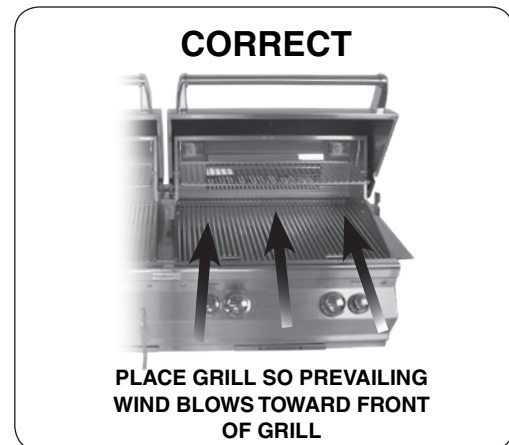
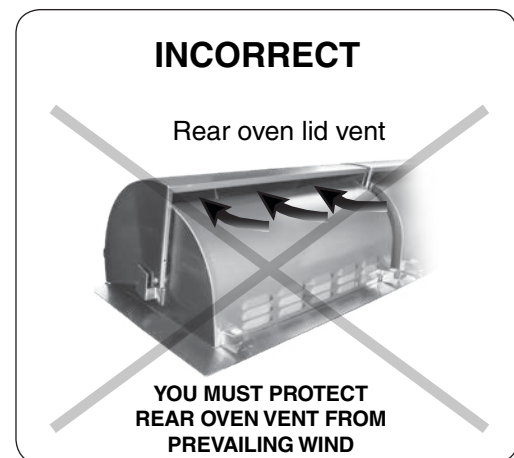

Fig. 10-2 Airflow direction - CORRECT
Fig. 10-3 Airflow direction - INCORRECT
**CAUTION:** Wind blowing into or across the rear oven lid vent (Fig. 10-3) can cause poor performance and/or dangerous overheating. Orient the grill so that the prevailing wind blows toward the front of the grill (Fig. 10-2). **A wind deflector is available for purchase to assist in proper airflow during windy conditions (gas side only).** See Table 1 for model numbers. Follow the instructions included with the wind deflector for installation.